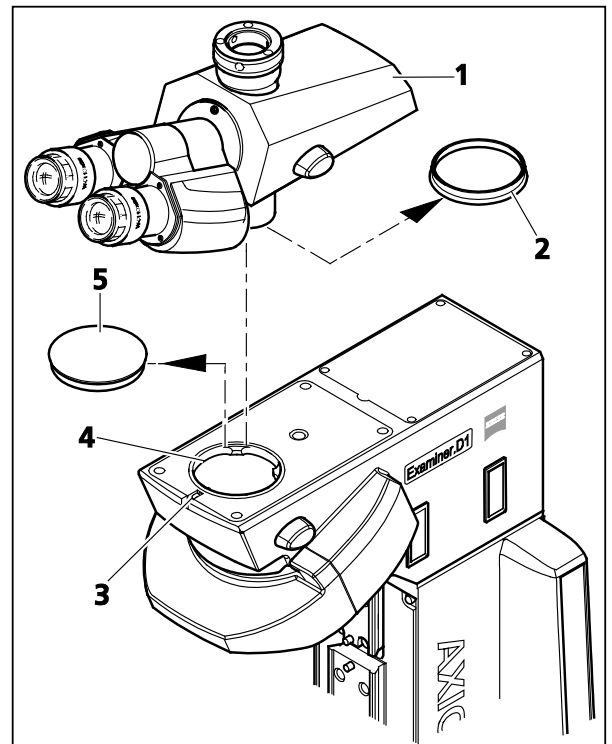

Figure 3-3 Attaching the binocular (photo)tube
- Loosen the hexagon socket head screw (Figure 3-3/3) using a ball head-screwdriver, width A/F 3. Remove the dust caps (Figure 3-3/2 and 5) from the tube bottom side and from the stand's dovetail socket.
- Attach the binocular tube (Figure 3-3/1) by inserting the dovetail ring into the socket (Figure 3-3/4). Rotate the binocular tube into the desired viewing position, and tighten the hexagon socket head screw (Figure 3-3/3) using a ball-head screwdriver again.